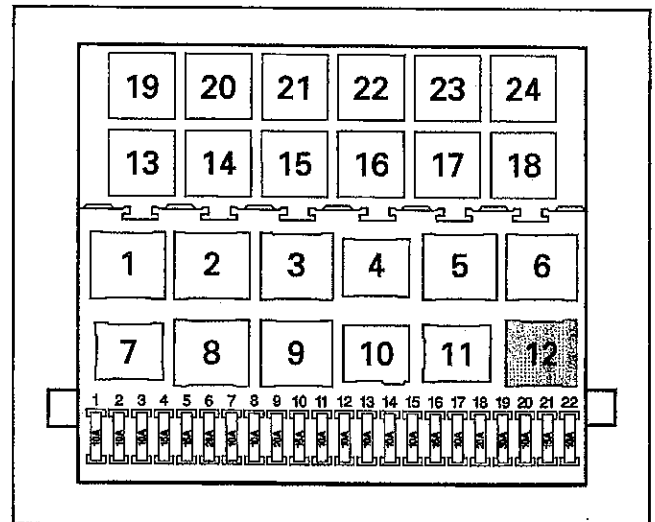

Fig. 10. Motronic power supply relay in fuse/relay panel (position 12).
1. Working at the fuse/relay panel, remove the power supply relay. See Fig. 10.